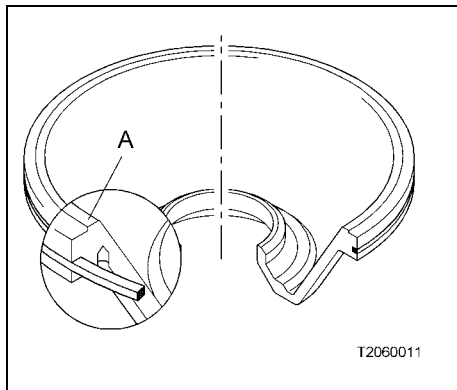

Fig. 237
- the sealing surface A of the sliding piston (Fig. 237) (Sealing surface A as delivered 2 mm high) and